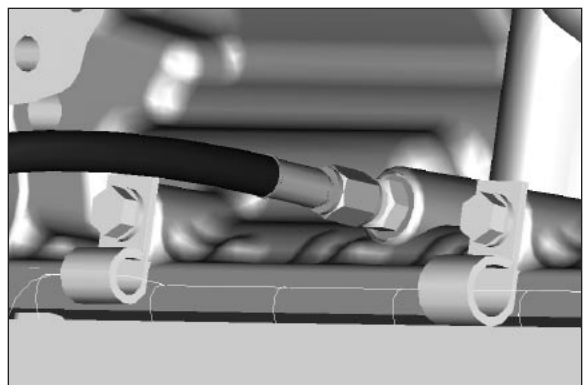

Fig. 8
7. Using the special fitting (379812) to securely attach the high pressure line to the transmission. This fitting is included with the P.T.O. Tighten to 8-10 Lbs. ft. [11.0 - 13.5 N.m.] (**Fig. 8**).